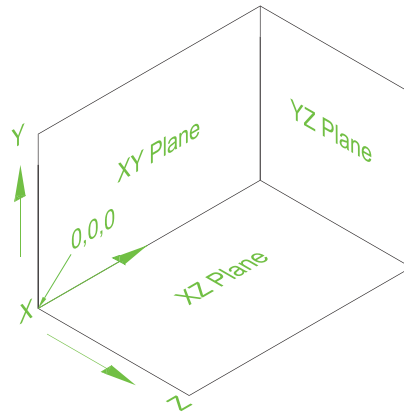

Fig. 17.1 The 3D space planes
- a third plane (**YZ**) lying at right angles to both the other two planes (Fig. 17.1).